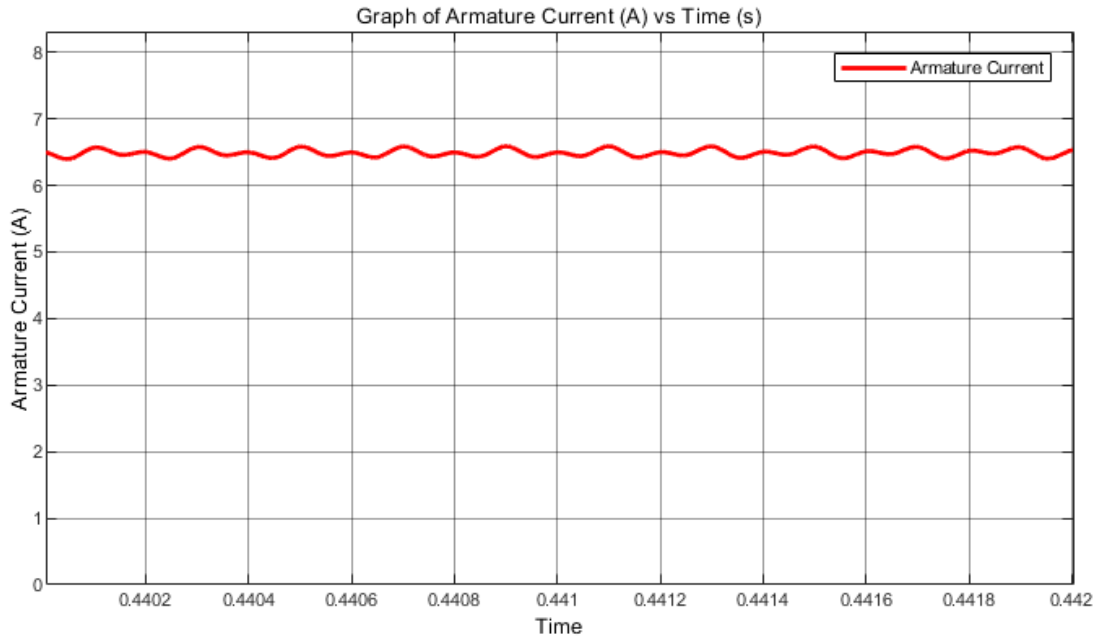

Figure 22: Graph of Input Current (A) vs Time (s) with 10kHz switching frequency
**Comment:** There is no explicit difference between 10kHz and 25kHz switching frequency because 10kHz is already high enough. As it can be seen from Figure 22 & 23, when switching frequency increases ripple armature current decreases as we expected. Also, efficiency of the system rises slightly.